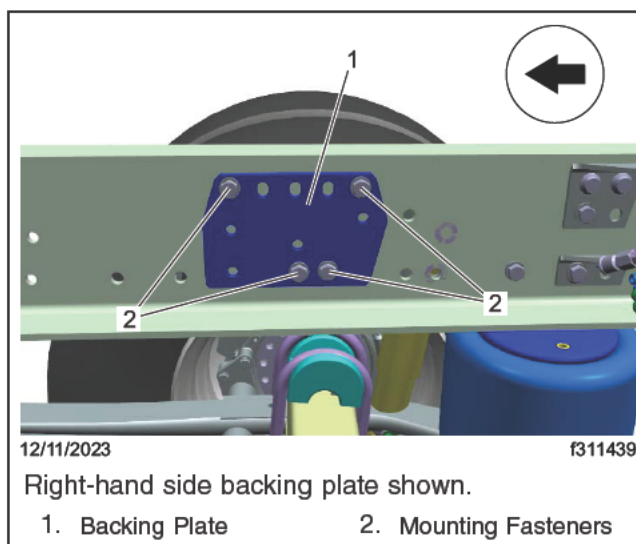

Fig. 6, Lateral Control Rod Backing Plate
13. Remove the fasteners that attach the lateral control rod backing plate to the right-hand frame rail, as shown in Fig. 6. Remove and discard the right-hand side backing plate.